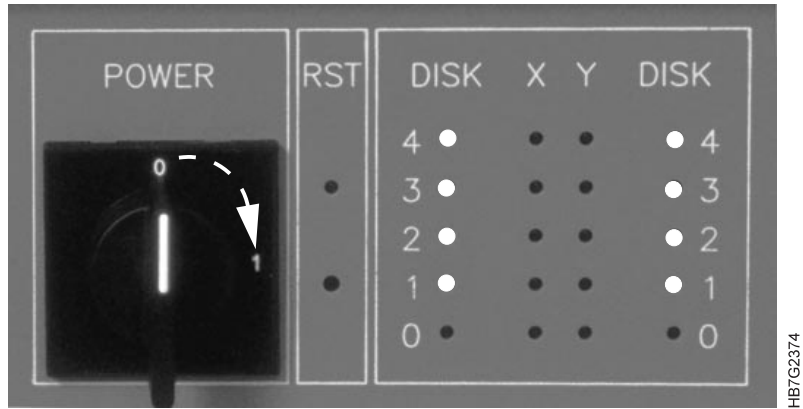

Figure 73. Collator Front Panel
- 4 Turn the power switch on the front panel of the Collator to the '1' position as shown in Figure 73.